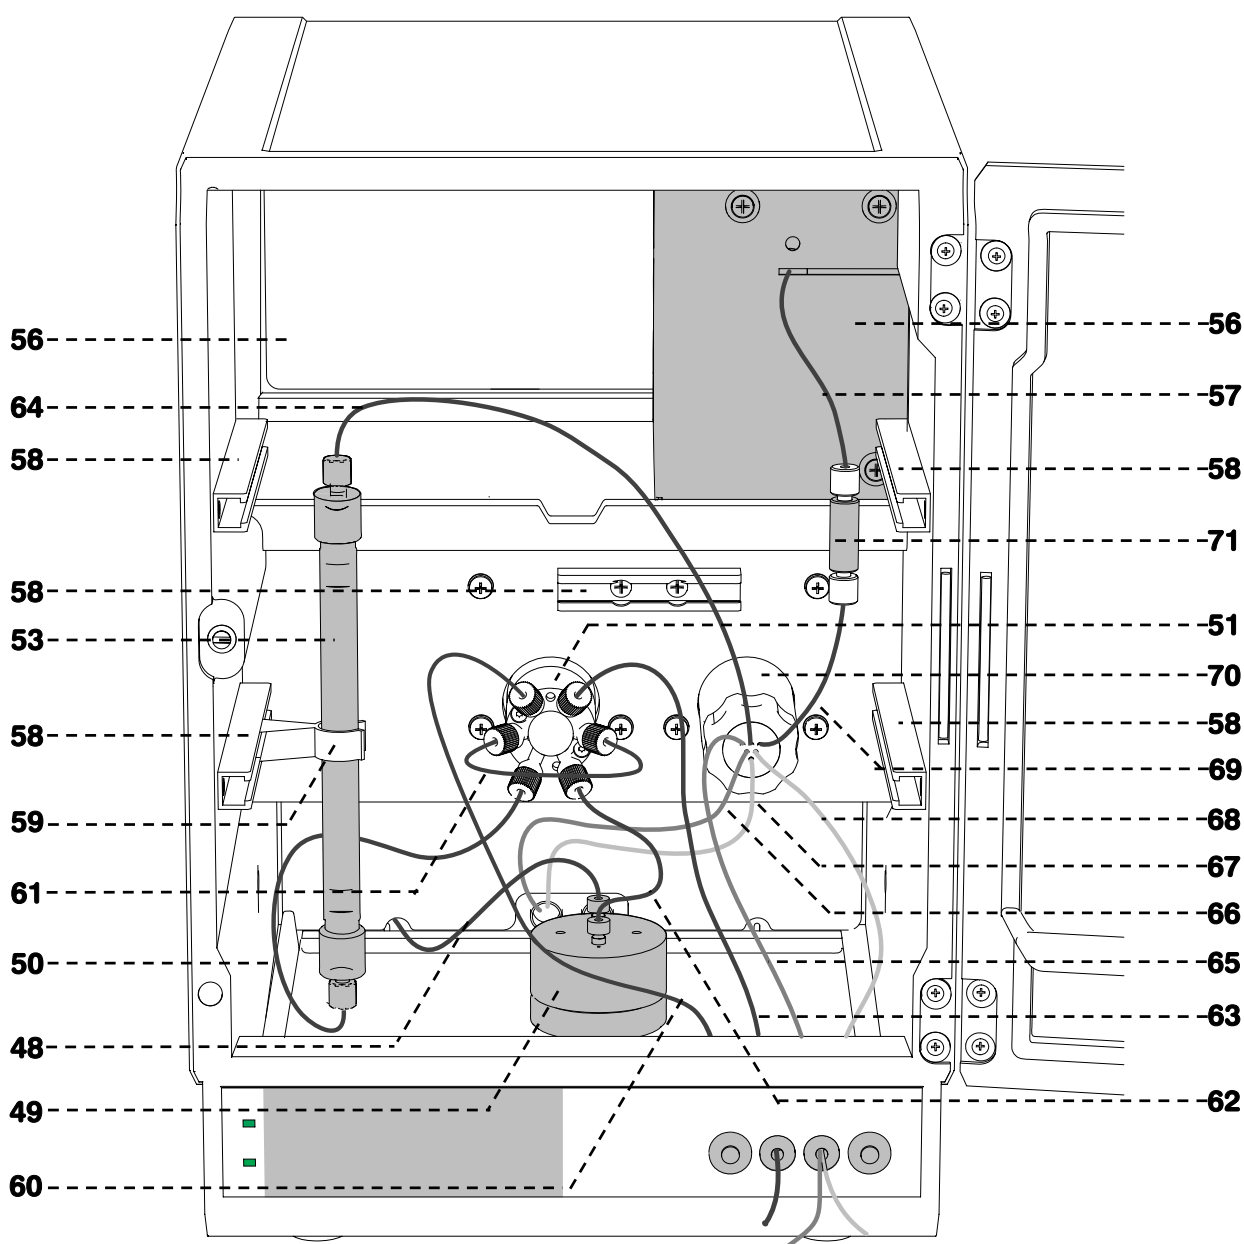
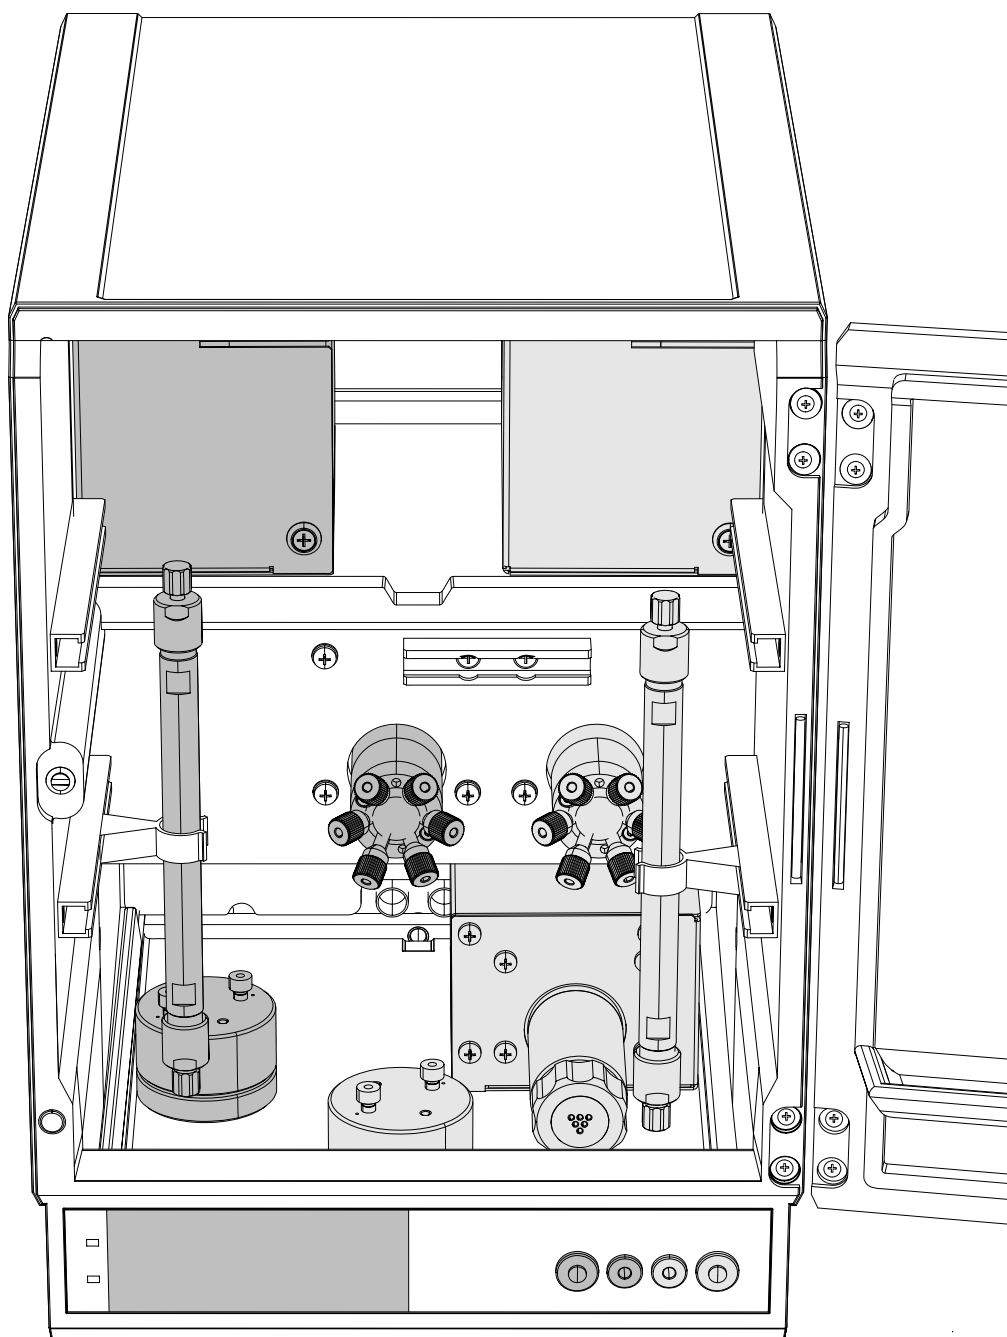

Fig. 23: Interior of 2.820.0330 Separation Center
Fig. 25: Interior of 2.820.032 Separation Center with suppressor module
The suppressor units must never be regenerated with H₂SO₄ in the same flow direction used for the eluent. You should thus always install the inlet and outlet capillaries as described in Section 2.9.7 according to the scheme shown in Fig. 23.
The three inlets and outlets numbered 1...3 on the suppressor module each have 2 permanently mounted PTFE capillaries, which must be connected as described in Section 2.9.7 (see Fig. 23 und Fig. 24).
In the case of the one-channel system with suppressor module, first the IC separating column is installed in the 2.820.0X30 IC Separation Center (see Fig. 23) and then the suppressor module is connected to the 833 IC Liquid Handling Pump Unit needed for operation (see Fig. 24). Proceed as follows:
- Pull inlet capillary **65** (marked with "H₂SO₄") by hand as far as required through one of the feedthroughs **14** to the outside (see Fig. 23 und Fig. 24).
- Pull inlet capillary **68** (marked with "H₂SO₄") by hand as far as required through one of the feedthroughs **14** to the outside (see *Fig. 23* und *Fig. 24*).
In order to operate a 2-channel Separation Center with chemical suppression a 2.833.0020 IC Liquid Handling Suppressor Unit is additionally required. For this reason the 1.753.0100 Suppressor Module of the 833 IC Liquid Handling Suppressor Unit is placed on the floor of the inner compartment of the Separation Center (see *Fig. 25*).
In a 2-channel system with suppressor module the first IC separating column, just like in a 1-channel system, is connected on the left-hand side to injection valve A and detector block A (similar to *Section 2.9.5*, *Fig. 21*). Components of this channel are shown in dark gray in *Fig. 25*.
The second column, just like in a 1-channel system with suppressor module (see *Section 2.9.7* and *Fig. 23*), is connected on the right-hand side to injection valve B and detector block B. The installation of the 833 IC Liquid Handling Suppressor Unit is described in the *833 Instructions for Use*; connection to the 2.820.0X20 Separation Center is described there in detail in *Section 5*. Components of this channel are shown in light gray in *Fig. 25*.